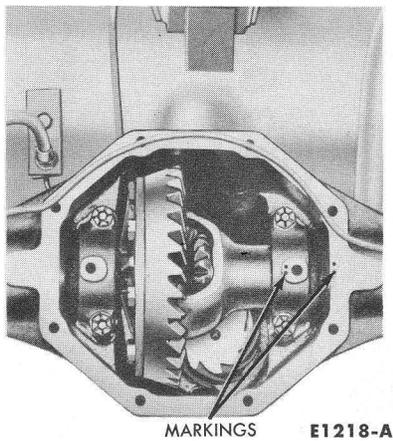

FIG. 7—Differential Bearing Cap Marking
2. Mark one differential bearing cap and the case (Fig. 7) to help position the parts properly during assembly.